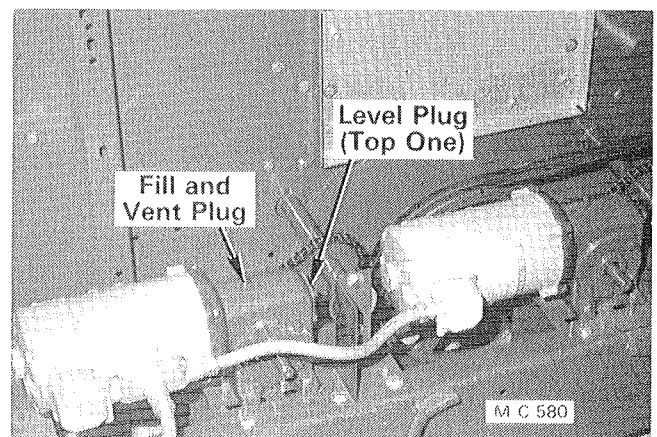

Figure 37 - SCR Drive
2. **SCR Drive Gear Boxes** - Remove the oil level plug (top one) on the end of each gear box. The oil level should be even with the bottom of the hole. If not, remove the vent plug on top of the gear box and add Mobil 600W cylinder oil or equivalent until it just runs out. Install the level and vent plug, see Figure 37.